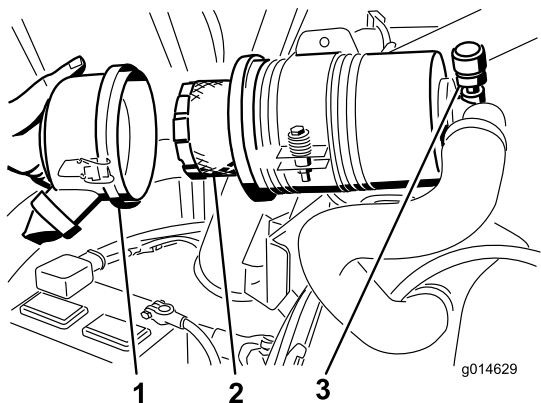

Figure 47
4. Remove and replace the filter (Figure 47).